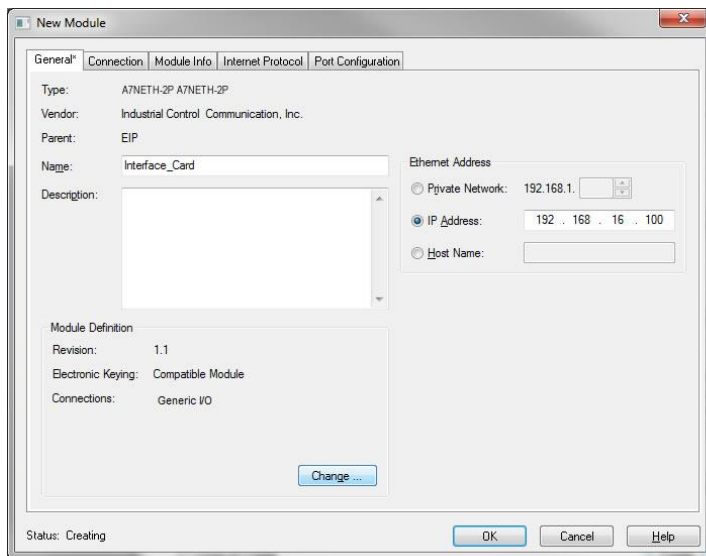

Figure 19: AOP Interface Card Module Properties
12) The “New Module” properties dialog box will open as shown in Figure 19.